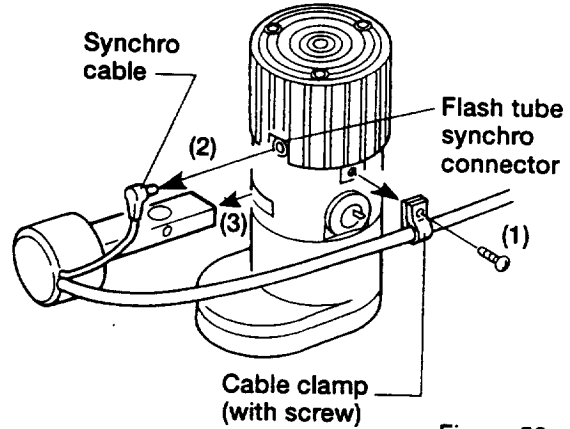
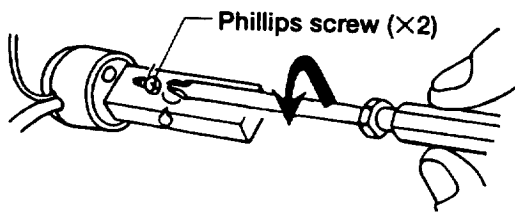

Figure 52
Figure 53
- (1) Using a Phillips screwdriver, loosen the cable clamp screw located on the bottom part of the side panel of the lamp house and remove the flash lamp cable (Figure 52).
- (2) Unplug the synchro cable from the flash synchro connector.
- (3) Pull the flash tube out of the socket.
- (4) Remove two Phillips screws with a Phillips screwdriver (Figure 53).